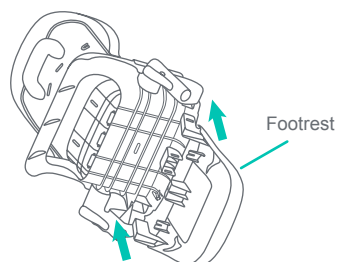

Fig. 4
- 4) • Slide the Footrest onto the Seat Base (Fig. 4). Lock Footrest into place.